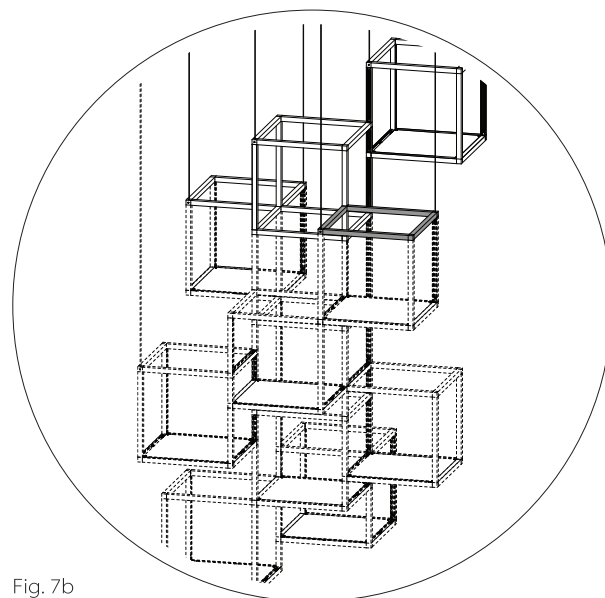

Fig. 7b
- 5b. Section as part of whole assembly shown in Fig. 7b.